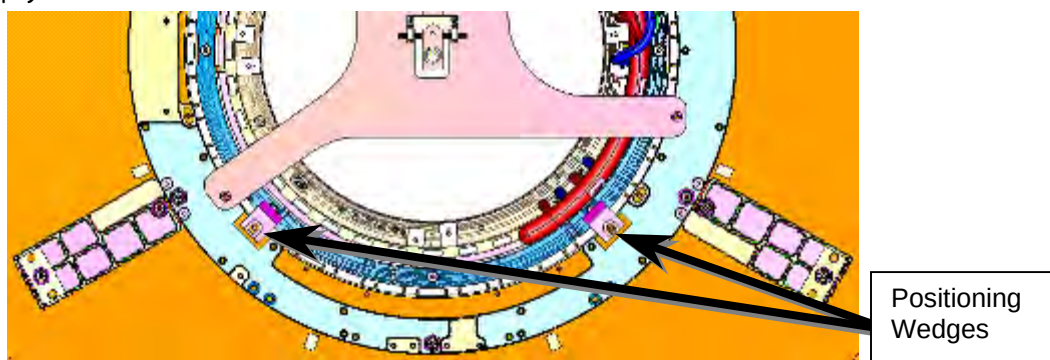

Figure 45 - Service-end positioning wedges
- A. Attach the 135° and 225° XRMB Wedges (5154485) to the service-end magnet flange using 1 (one) M10x30mm brass bolt (5110638-64) and 2 (two) G10 flat washers (5146169). **(FIG 45)** These two wedges will serve as the positioning blocks for XRMB longitudinal (Z axis) alignment. To allow future adjustment, tighten the bolt only enough to secure the wedges. Do not apply loctite at this moment.